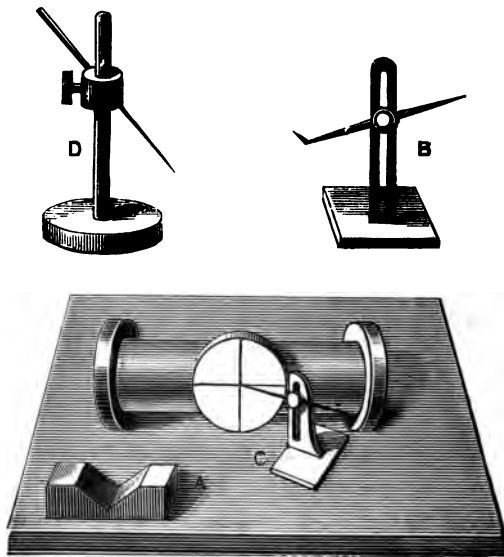

FIG. 87.—MARKING CYLINDER: SURFACE PLATE, SCRIBERS, AND V BLOCK.
We will now go a step further and show the use of the surface plate more perfectly. We have marked a line on the little face of the tenon and on that of the boss, and then by help of the compasses made a central mark upon it for the punch; but we can do this in another and more accurate way with the scriber, by laying down the cylinder as in Fig. 87, and crossing the first line by a second, turning the cylinder over
may be pressed into service if cheapness is an object. In Fig. 87 (D) is shown a scribing block made of a turned boxwood base with a pedestal made of stout brass or iron rod, on which slides a boxwood block to carry the needle, which, like the block, is secured by a clamping screw. This can almost as easily be made of metal, and most amateur workshops will contain some odds and ends suitable for the purpose. The base may, for instance, be made of an old cogwheel faced up nicely, with or without turning off its teeth, or may be a lead casting, or chipped out of thick brass plate and finished in the lathe. An ingenious mechanic is seldom at a loss for materials for a thing of this sort.